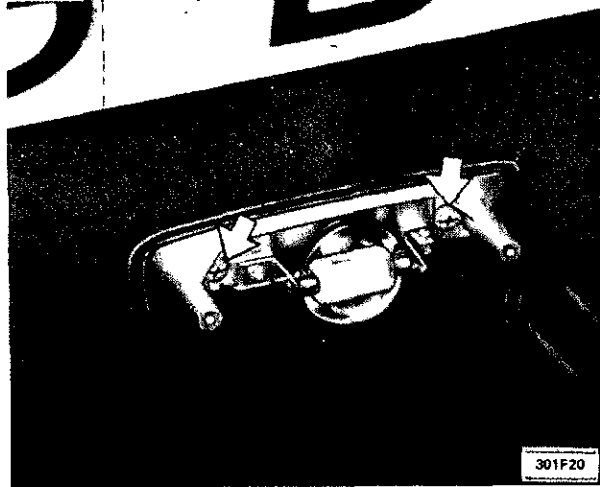

Figure 1F-20 Removal of Back-Up Light
3. Disconnect electrical wires. See Figure 1F-20